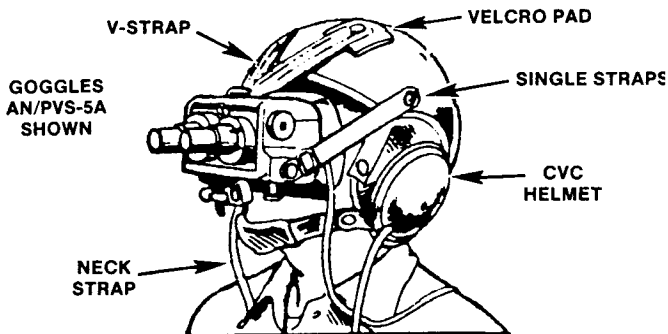

Figure 3-8. AN/PVS-5A Mounted on CVC Helmet.
- (1) Place neck cord around neck and place CVC helmet on head.
- (2) Install batteries per paragraph 3-2b.
- (3) Remove eyepiece lens caps.
- (4) Attach the Velcro Vee-strap to the Velcro pads on the helmet (fig. 3-8).
- (5) Snap two side straps to fastener studs on each side of the helmet.
- (6) Adjust side straps using band adjustment until you have a comfortable, stable fit.